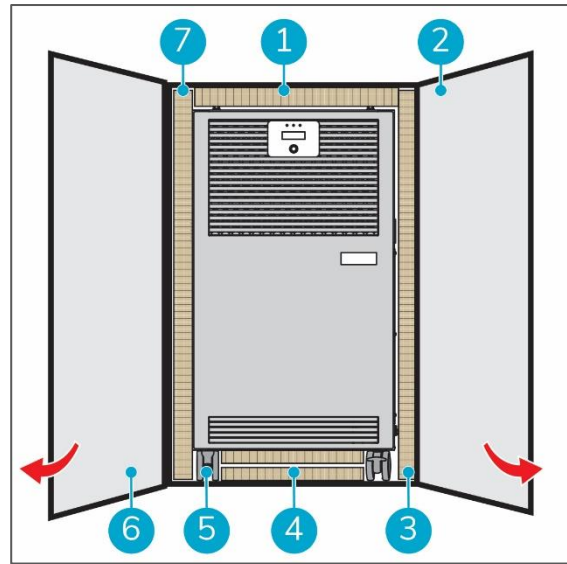

Figure 7
2. Open the front box flaps (Figure 7, pos. 2 and 6).
- You will see your ICon Pro as shown in Figure 7.
4. Remove the left and right honeycomb paper boards (Figure 7, pos. 3 and 7).
5. Remove the double honeycomb paper board from underneath your ICon Pro (Figure 7, pos. 4).
6. Unlock the caster wheels (Figure 7, pos. 5) and pull your ICon Pro out of the box.
7. Remove the honeycomb paper board on top of your ICon Pro (Figure 7, pos. 1).